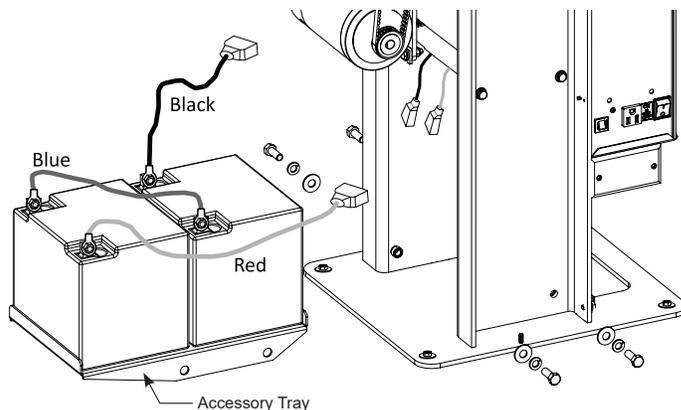

Figure 25. 50 Amp Battery Harness Installation
7. Place the 50Ah battery tray between the chassis posts and secure it using the four fasteners provided in the kit. See Figure 25.